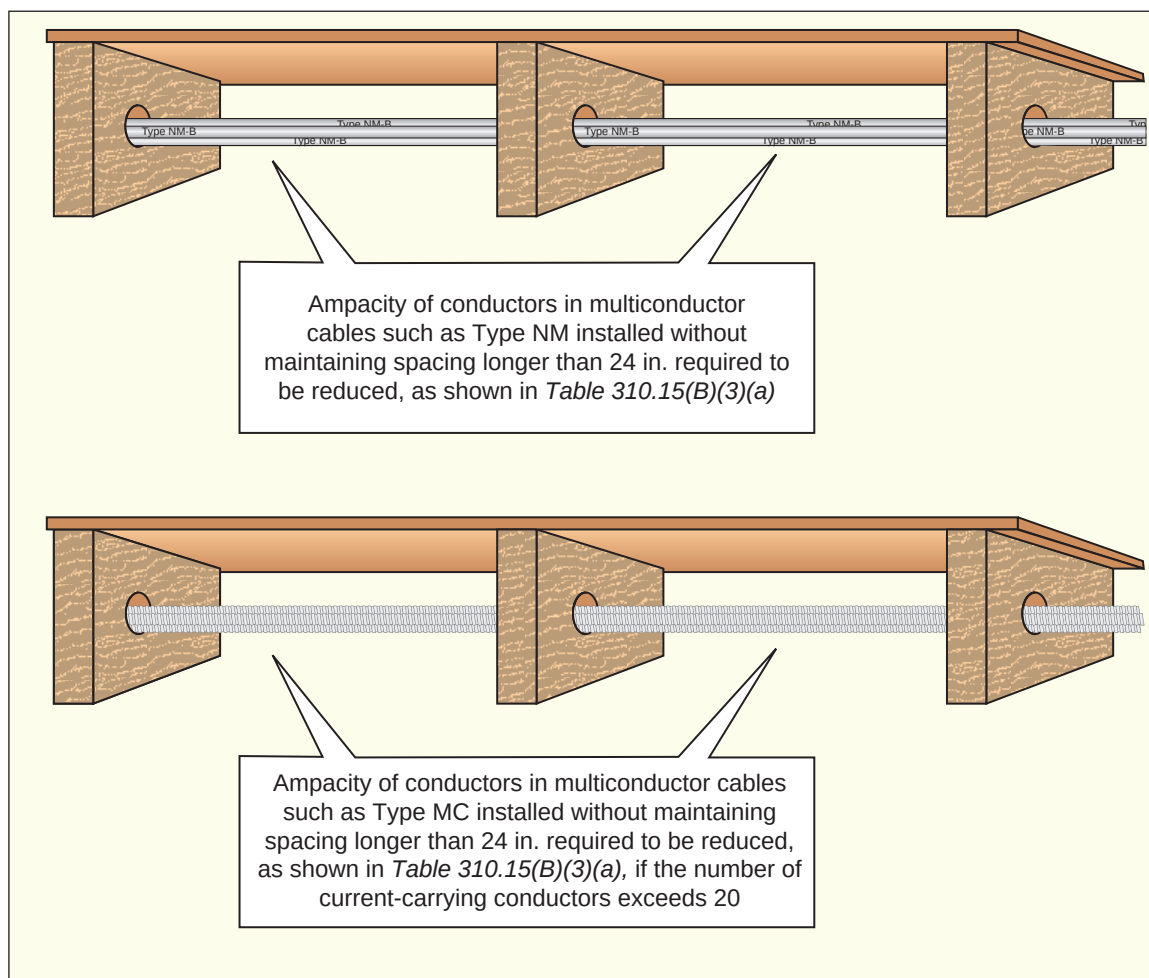

FIGURE 4-4 Application of *Adjustment Factors* for Type NM and Type MC cables where separation is not maintained. (Delmar/Cengage Learning)
- If more than three current-carrying conductors in cable assemblies are installed without maintaining spacing for lengths greater than 24 in. (600 mm), apply the adjustment factor from *NEC 310.15(B)(3)(a)*. See Figure 4-4 and *NEC 310.15(B)(3)(a)*.